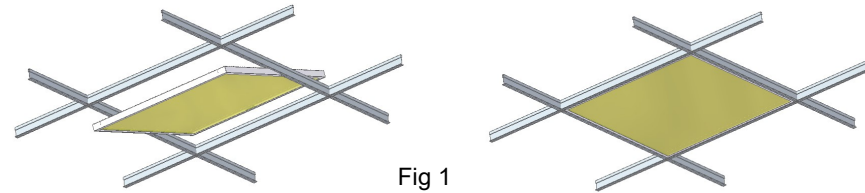

Fig 1
3. Lift and tilt the luminaire into the ceiling void then rest it on the ceiling grid (see Fig 1). Please allow circa 200mm void space to achieve this action.